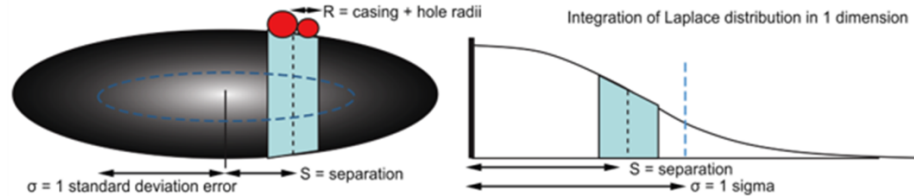

Fig. 5—Diagram of probability integration for point-to-point calculations.
**Fig. 5** shows the method for 1D integration of the Laplace distribution. In the previous work, similar methods are used for integrating the normal probability distribution (Willamson 1998, McNair 2005).